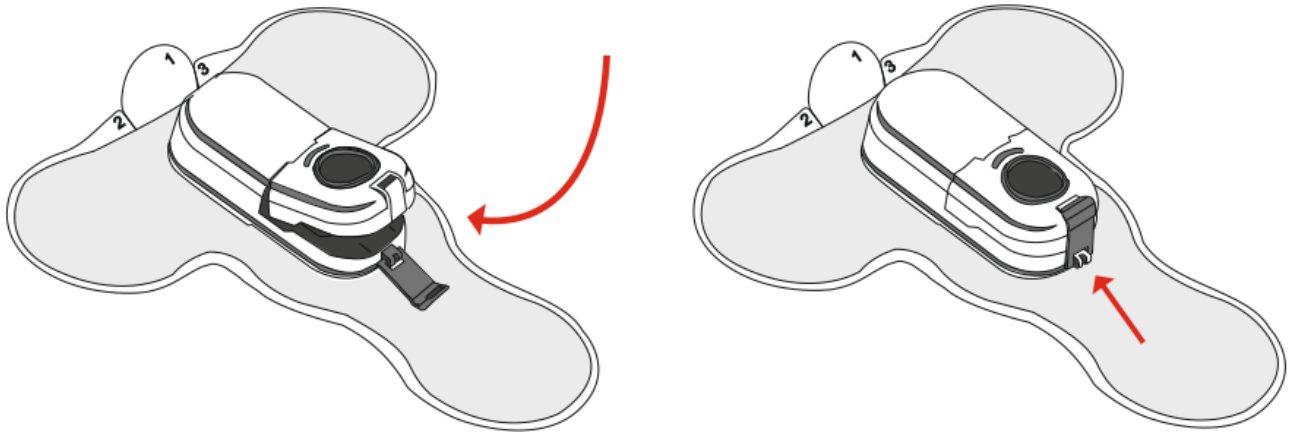

Figure 4: Insertion of the recorder into the cradle
1. Verify that the SD card of the VSMS patch recorder slot is sealed (see Figure 4)